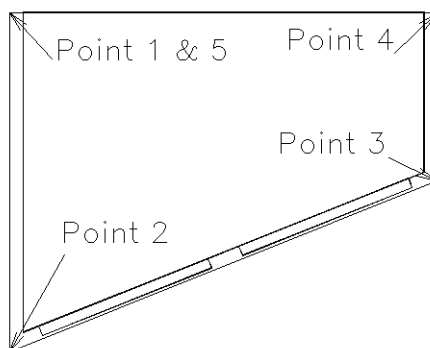

Figure 8
3. Set points at all changes in direction around the entire countertop, and use the **PLANE** (**P**) command to create a plane, figure 8. Radius outside corners if desired now. The **FILLET CORNER** command is found under the **EDIT** menu.